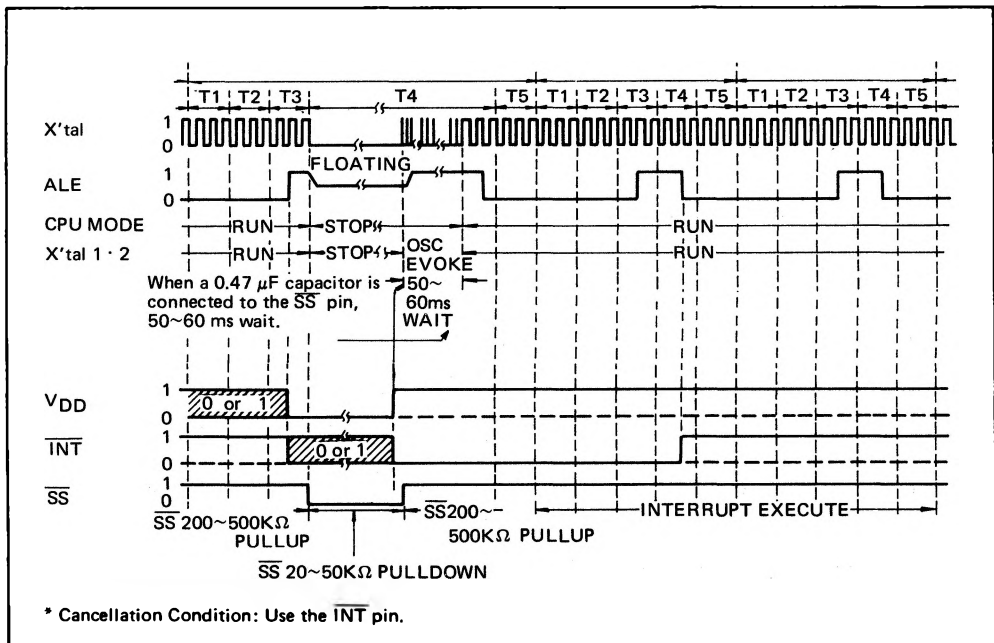
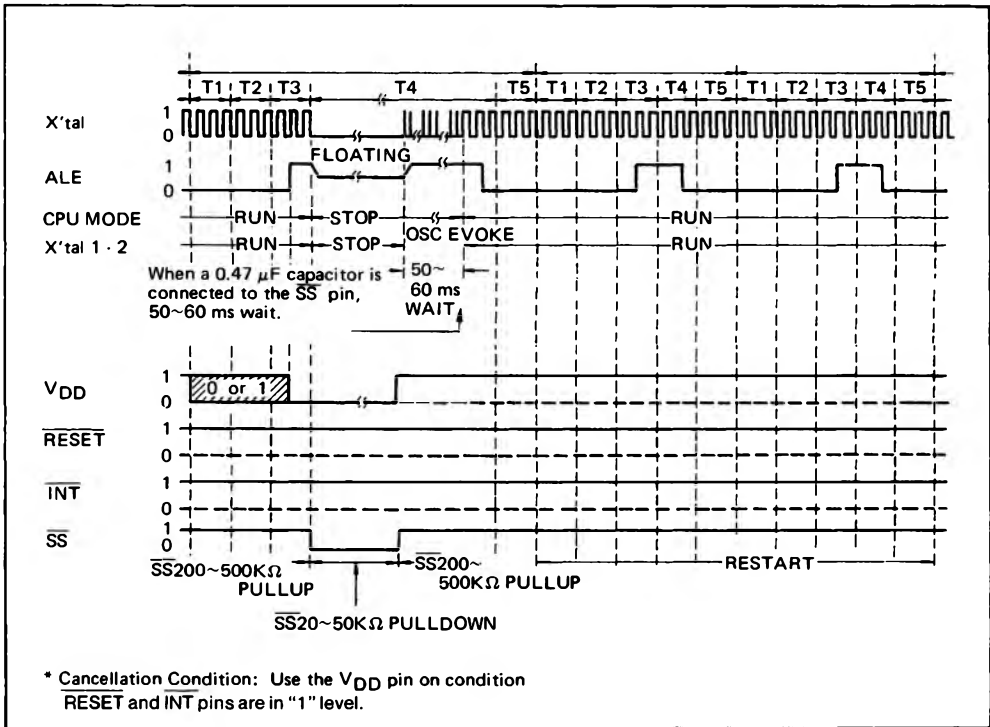

Fig. 4-6 Hardware Power-Down Mode Timing Chart
Fig. 4-7 Hardware Power-Down Mode Timing Chart
However, if the power-down mode is started during an interrupt processing routine, execution will be continued on the next instruction after the present instruction. The timing chart is outlined in Fig. 4-6.
(3) Use of the $\overline{\text{INT}}$ pin during external interrupt disabled mode (i.e. following execution of DISI instruction or hardware reset)
- The clock generator is activated and the CPU started up when a "1" level is applied to the V_{DD} pin while a "0" level is applied to the $\overline{\text{INT}}$ pin. If this "0" level is maintained until at least 2 ALE output signals occur, execution is continued on the next instruction after the present instruction. The timing chart is outlined in Fig. 4-6.
(4) Use of V_{DD} pin only
- The clock generator is activated and the CPU started up when a "1" level is applied to the V_{DD} pin while a "1" level is also applied to both the $\overline{\text{RESET}}$ and $\overline{\text{INT}}$ pins. In this case, execution is resumed from the stopped position. The timing chart is outlined in Fig. 4-7.